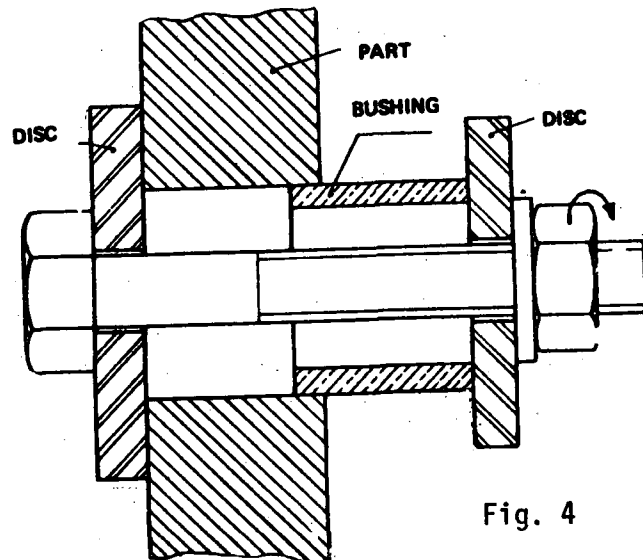

Fig. 4
- 1 If it is not possible to carry out the operation with a press, an assembly as the one shown in Figure 4, can be used.